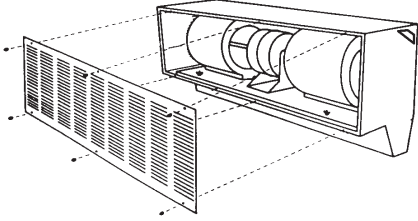

Figure 2 - Removing Air Intake Grille
4. Unscrew six (6) knurled nuts and remove air intake grille. (See Figure 2.)